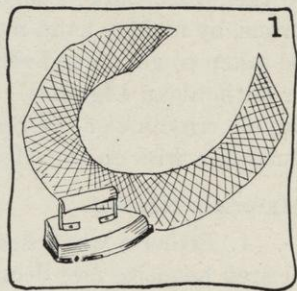

FIG. 1.
- (1) See Job 15, Figures 1 through 6, (pages 63 and 64).
- (2) If the bias edge on the piece of material from which you are to cut your strip does not look like a true bias, fold it over until it does. Do not cut it off until you show it to your teacher; be sure to show it to her *before* you start to measure for your strip.
- (1) For rice net.
- (b) Stretch one edge and press it into a curve as you iron (see Figure 1). Sometimes it is necessary to steam and to stretch the material first, and then to press it.
- (2) For crinoline (it is usually used double).